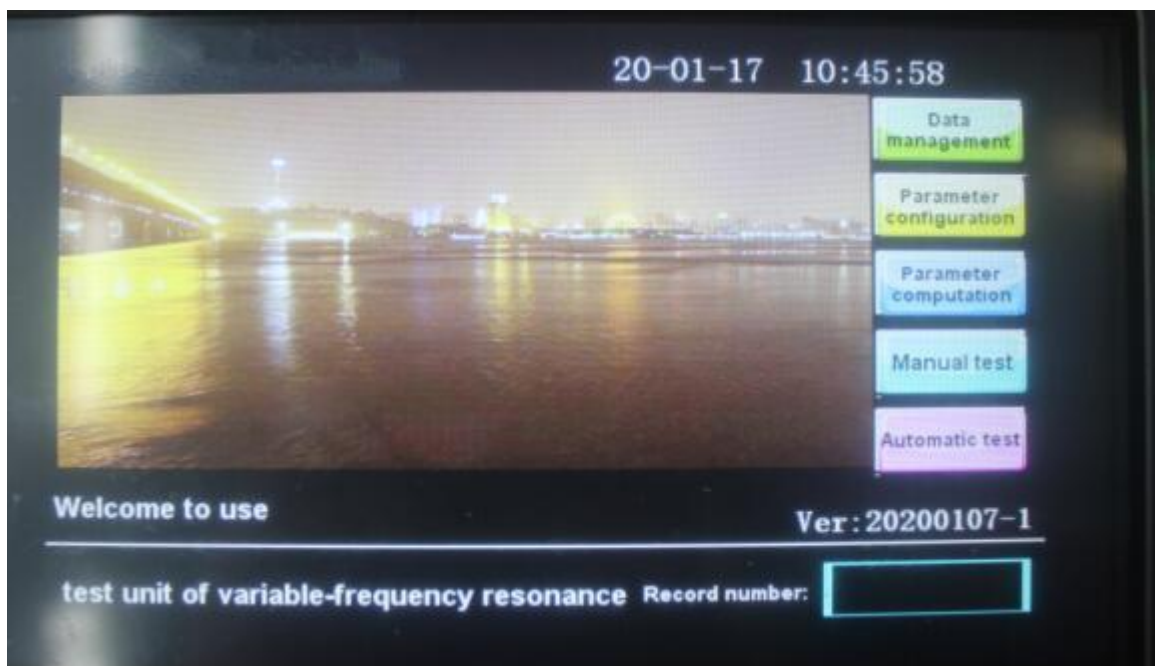
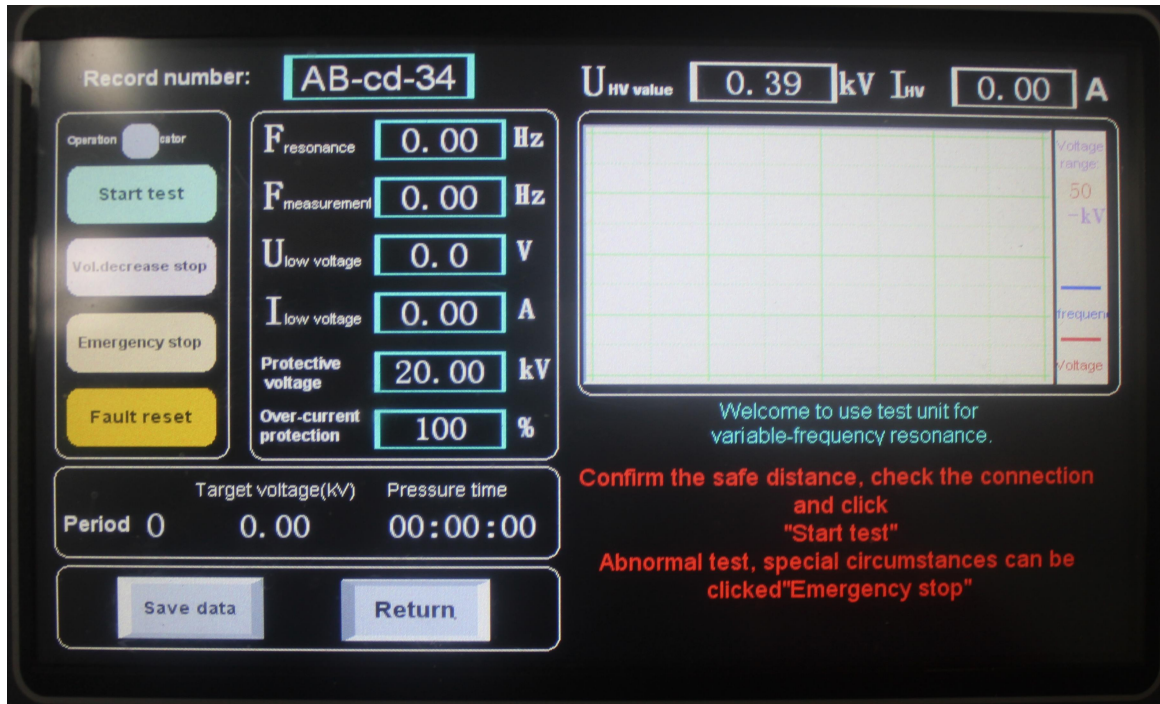
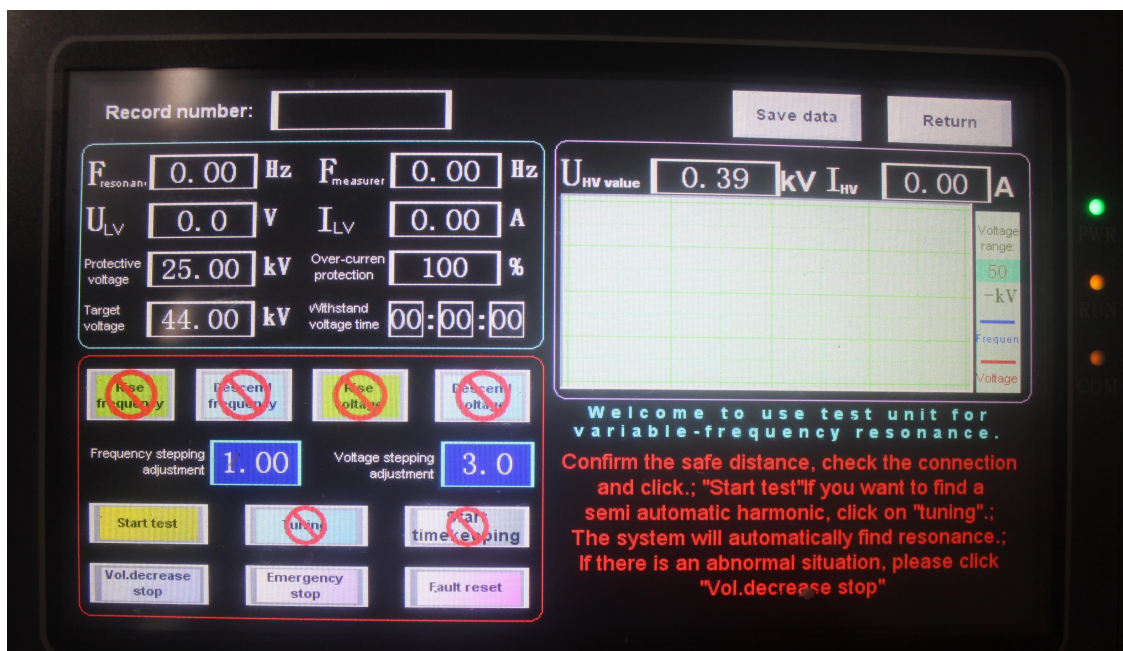
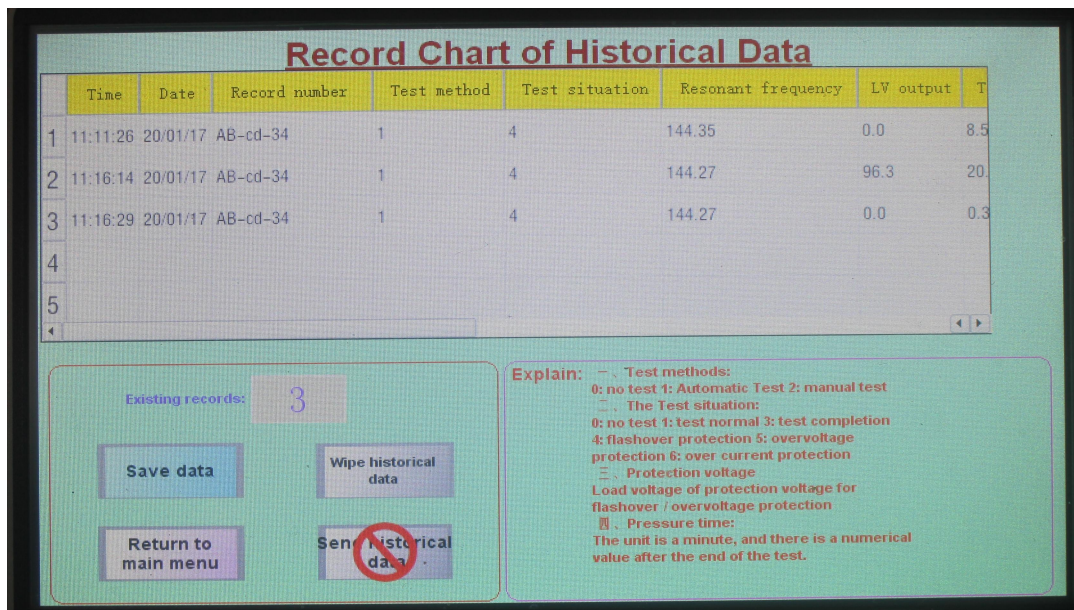

Figure 2
Figure 5
Figure 12
Figure 16
4.2.1 The liquid crystal display interface after starting up the computer is shown in Figure 2
- **Return menu** means returning back to main menu, shown in Figure 2.
Click “**Automatic test**” after entering into interface of Figure 2 or 4. Click “**Start test**” after entering into interface of Figure 5. Then the tuning, voltage rising, timekeeping and voltage descending can be carried out automatically.
Click “Manual test” after entering into the interface of Figure 2 or 4; Click “Start test” after entering into the interface of Figure 12. Then, the manual/ semi-automatic frequency modulation and manual voltage rising can be carried out.
Enter material interface by clicking “**File management**” after entering into the interface of Figure 2; then records for all previous tests can be consulted, shown in Figure 16.